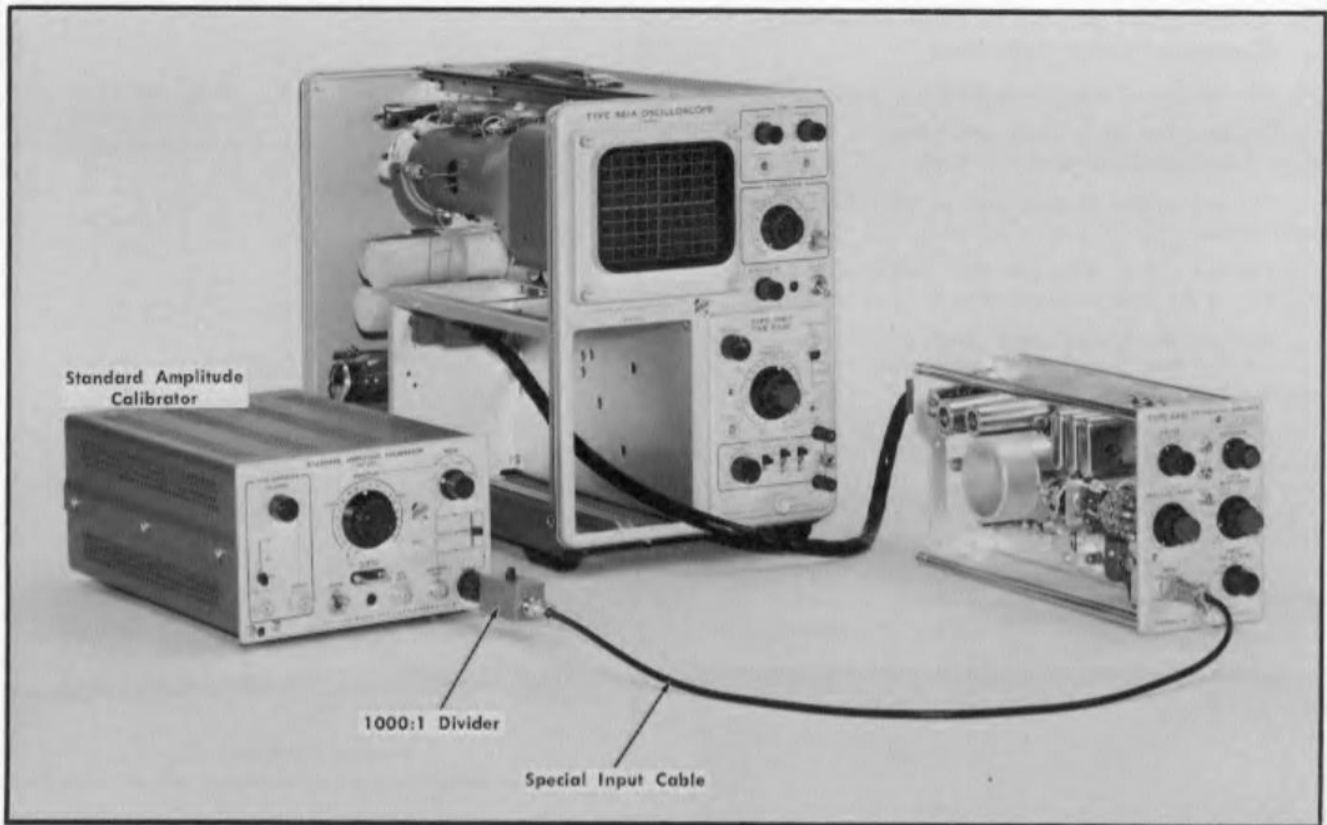

Fig. 6-16. Initial test equipment setup for step 11.
11. Adjust Gain Tracking ❶
- a. Test equipment setup is shown in Fig. 6-16.